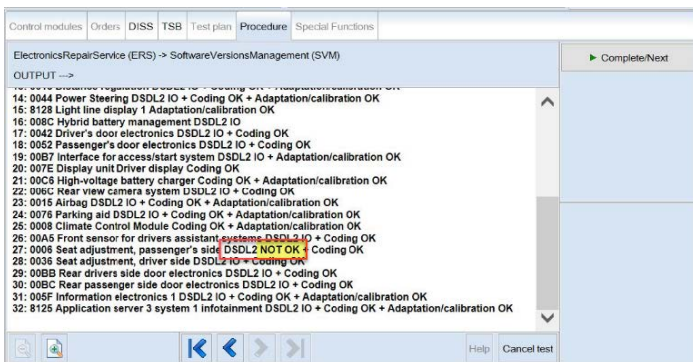

Figure 17: Example “NOT OK” response
- If there is an “NOT OK” note for one or several control units (see figure 17), the update must be attempted again (go back to step 7).